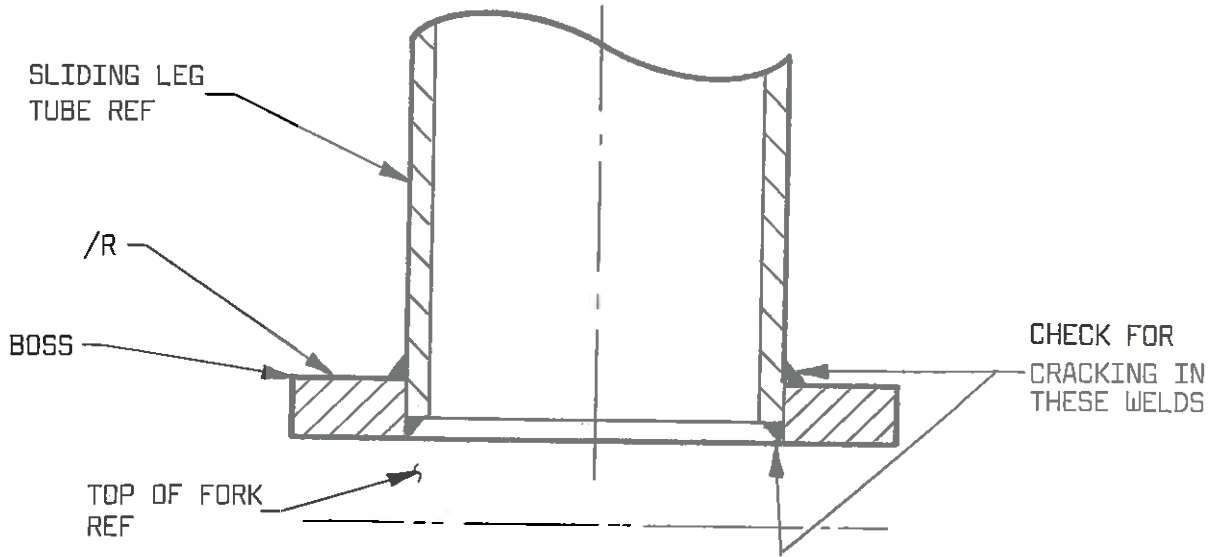

FIG 1a
- i. For Pre Mod M425 aircraft, ref Fig. 1a, remove fork assembly.
- ii. Repaired replacement struts are indicated by a mark '/R' on the top side of the boss flange. Ref. Fig. 1a and 1b.
8. On fitting replacement, ref 5.2 ii. or 5.2 iii., normal inspection intervals to prevail. Log book to be annotated "SB121 complied with: Replacement strut identified /R fitted" or "SB121 complied with: Mod M468 or M791 inc".